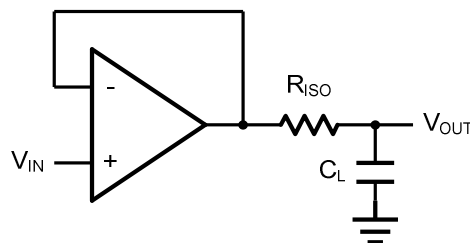
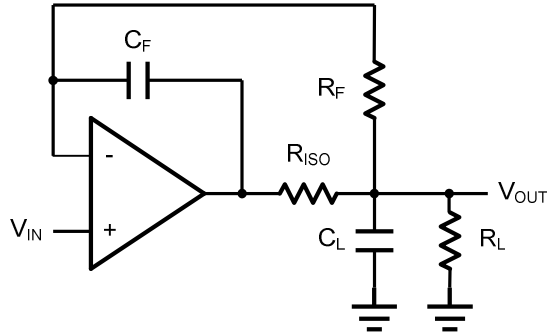

Figure 2. Indirectly Driving a Capacitive Load Using Isolation Resistor
Figure 3. Indirectly Driving a Capacitive Load with DC Accuracy
The LMV72X family is optimized for bandwidth and speed, not for driving capacitive loads. Output capacitance will create a pole in the amplifier's feedback path, leading to excessive peaking and potential oscillation. If dealing with load capacitance is a requirement of the application, the two strategies to consider are (1) using a small resistor in series with the amplifier's output and the load capacitance and (2) reducing the bandwidth of the amplifier's feedback loop by increasing the overall noise gain. Figure 2. shows a unity gain follower using the series resistor strategy. The resistor isolates the output from the capacitance and, more importantly, creates a zero in the feedback path that compensates for the pole created by the output capacitance.
The circuit in Figure 3 is an improvement to the one in Figure 2. R_{F} provides the DC accuracy by feed-forward the V_{IN} to R_{L} . C_{F}